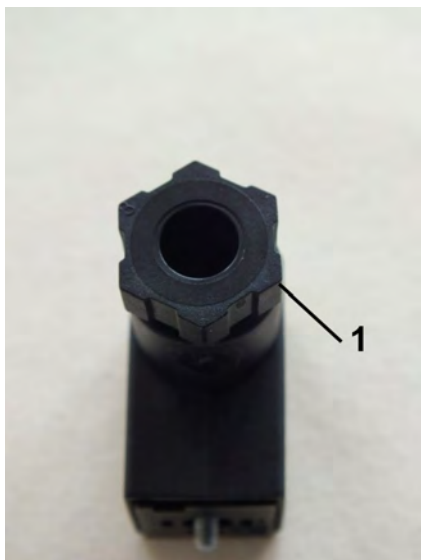

Fig. 24: Loosen the screw connection
- 4.** Loosen the screw connection (Fig. 24/1) by turning it to the left
- 8.** Retighten the screw connection (Fig. 24/1) by turning it to the right until tight